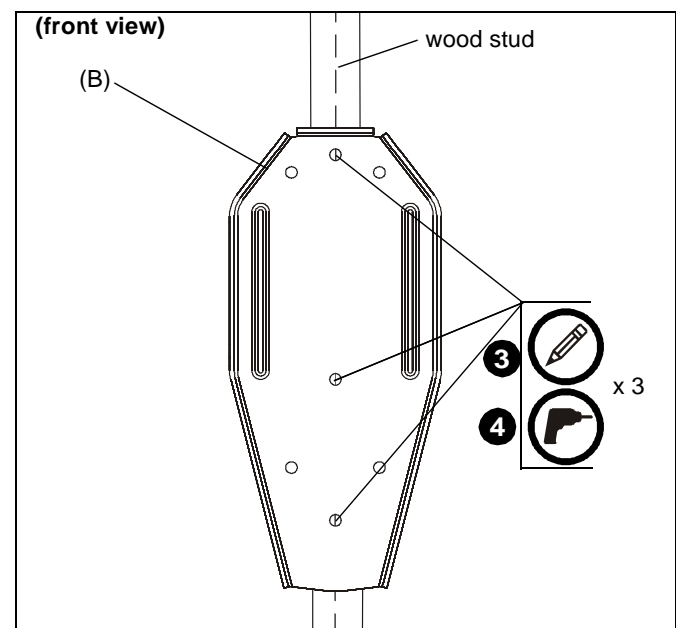

Figure 3
2. Line up inner three holes on wall bracket (B) with center of stud at desired mounting location. (See Figure 3)
3. Using wall bracket (B) as a template, mark three holes at inner holes in bracket. (See Figure 3)
4. Drill three 7/32" x 2-1/2" deep holes at locations marked in Step 3. (See Figure 3)